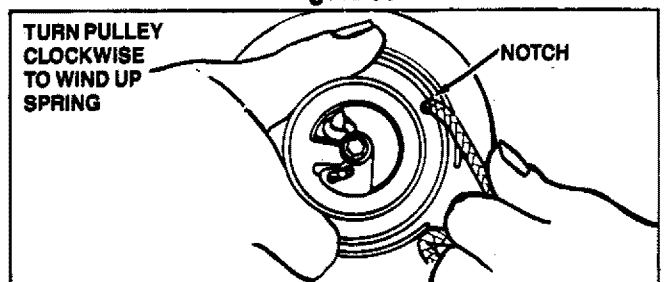

Figure 39
15. Catch the rope in the notch in the pulley. Figure 39.